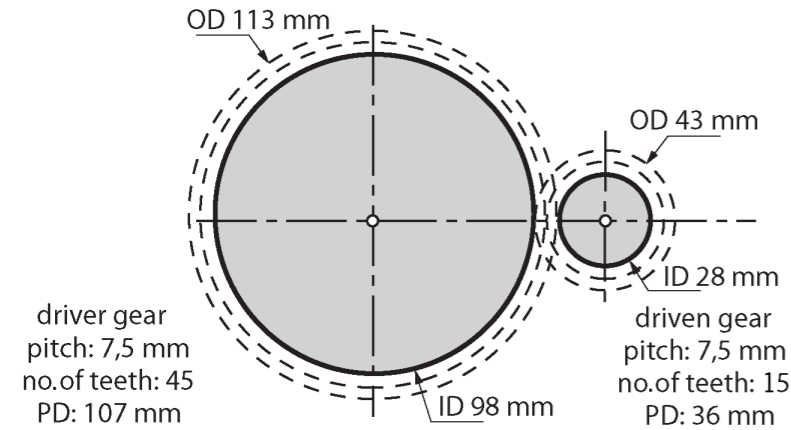

Figure 11
1. Draw the gear system shown in Figure 11. The driver gear has 45 teeth and a pitch circle diameter of 107 mm. The driven gear has 15 teeth and a pitch circle diameter of 36 mm. Draw your gear system on grid paper.
Learners' drawings should look like Figure 11.